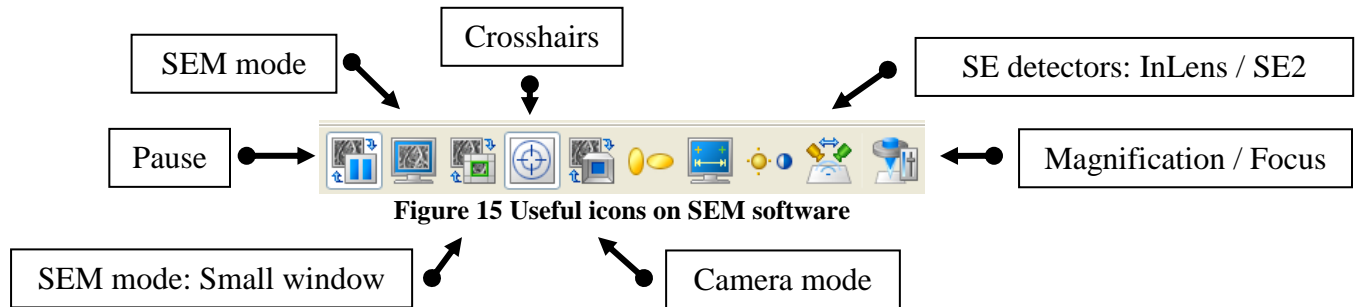
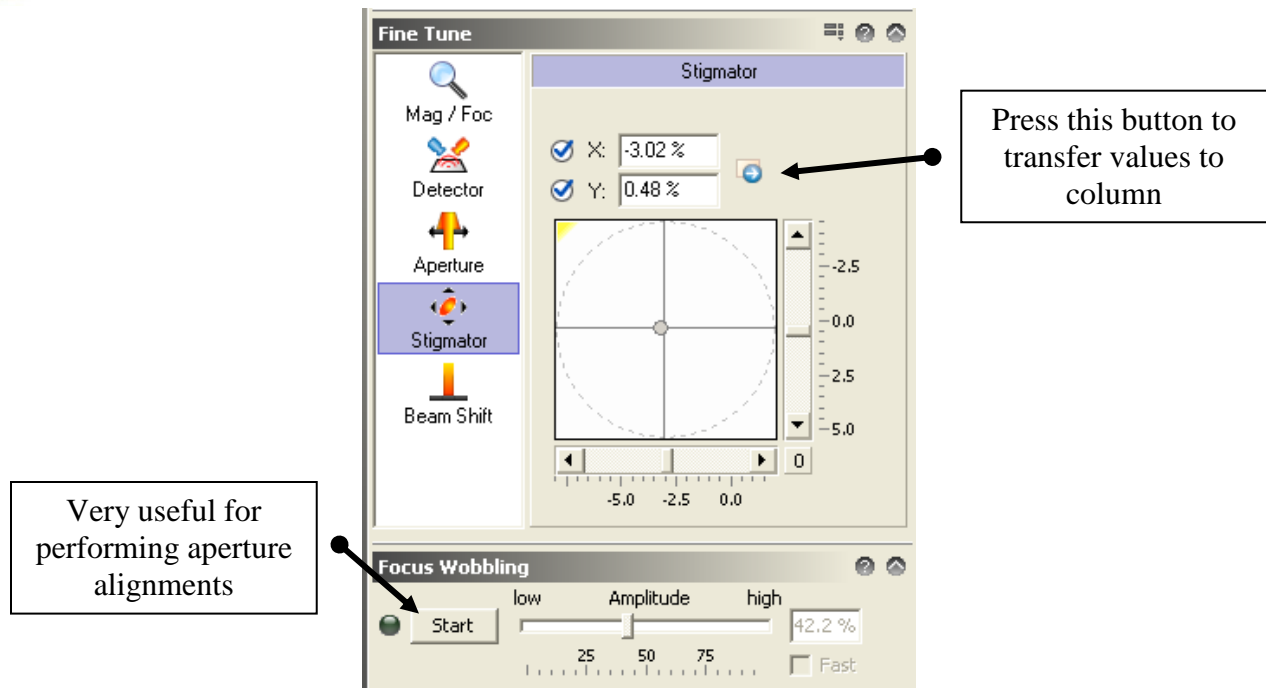
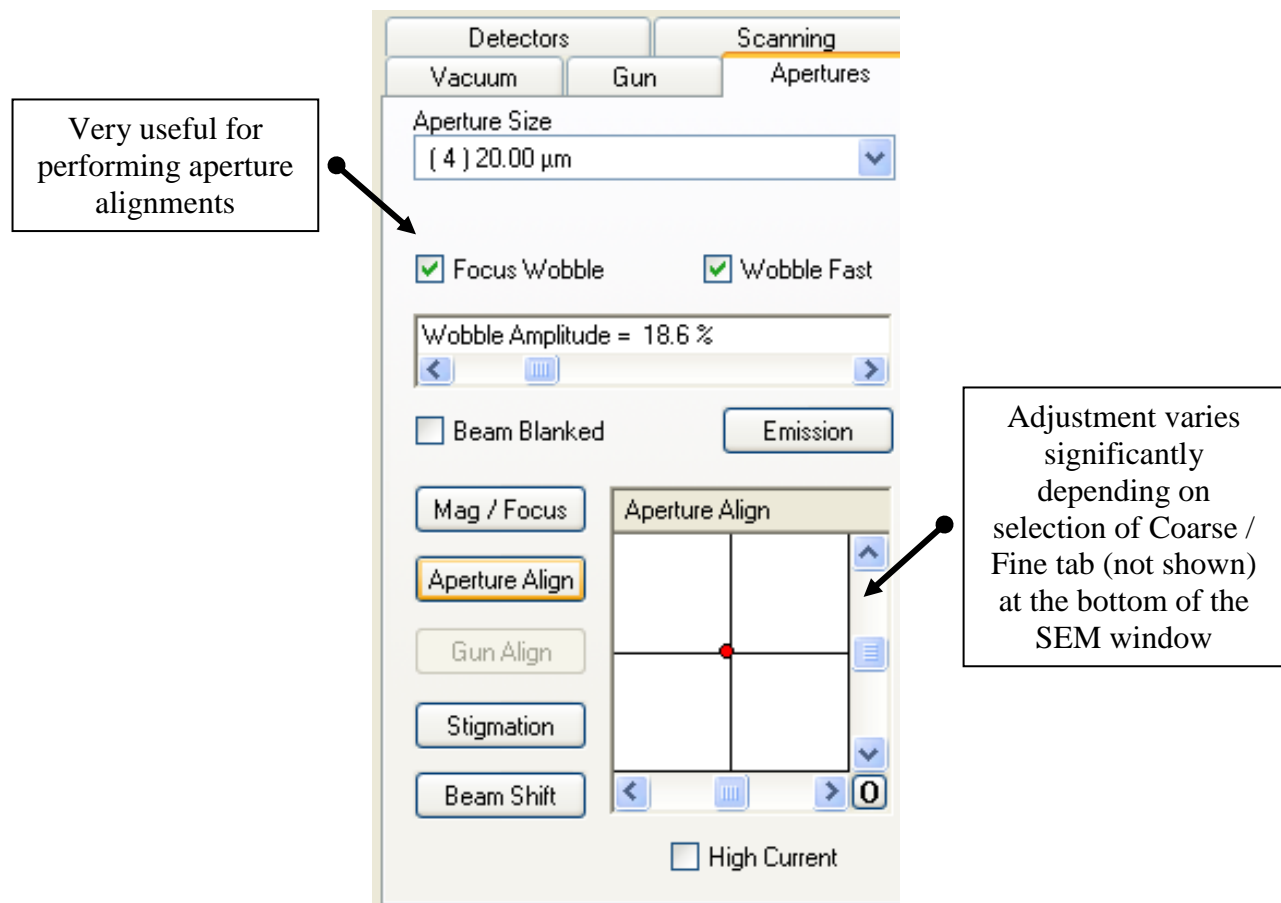

Figure 15 Useful icons on SEM software
Figure 19 Column adjustments in Column Control tab in the Raith software
Figure 20 Apertures tab in the SEM software
13. To switch from camera mode to SEM mode and begin imaging the loaded sample, the user must (i) enable the SEM mode  in the SEM software, and (ii) un-blank the beam  in the Raith software. Some other useful icons are noted in Fig. 15.
17. Find a particle of interest (approx. 200 – 300 nm wide) to perform column corrections namely focus, aperture alignment, and stigmation. These column corrections may be performed using either the Raith software (Fig. 19) or the SEM software (Fig. 20). A suggested sequence of action is provided:
- Perform stigmation correction – Test (1): particle shape should not skew upon changing focus, and (2) contamination dot should be circular (more on this ahead).
- ❖ If you encounter a black SEM screen after ramping up the voltage, (i) ensure the correct **detector** is used (see Fig. 15) as follows: **InLens** for 0.1 – 20 keV, and **SE2** for 20 – 30 keV, (ii) ensure the **Emission** mode is not selected (see Fig. 20), and (iii) correct **brightness/contrast** levels are used.